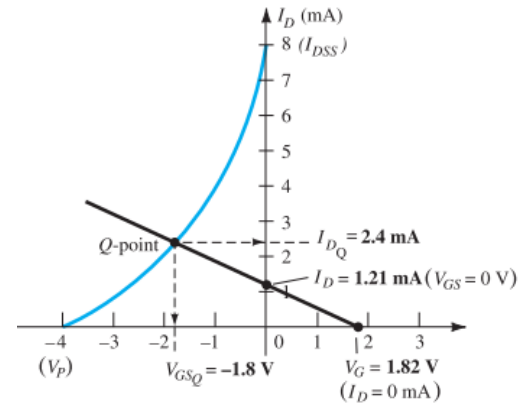

FIG. 7.22
- a. For the transfer characteristics, if $I_D = I_{DSS}/4 = 8 \text{ mA}/4 = 2 \text{ mA}$, then $V_{GS} = V_P/2 = -4 \text{ V}/2 = -2 \text{ V}$. The resulting curve representing Shockley's equation appears in Fig. 7.22. The network equation is defined by
The resulting bias line appears on Fig. 7.22 with quiescent values of